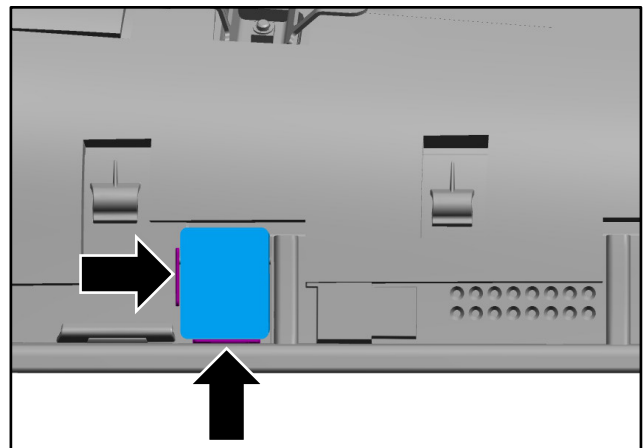

Figure 5
5. Install the headliner foam block on to the headliner assembly between the marks shown (refer to Figure 5).